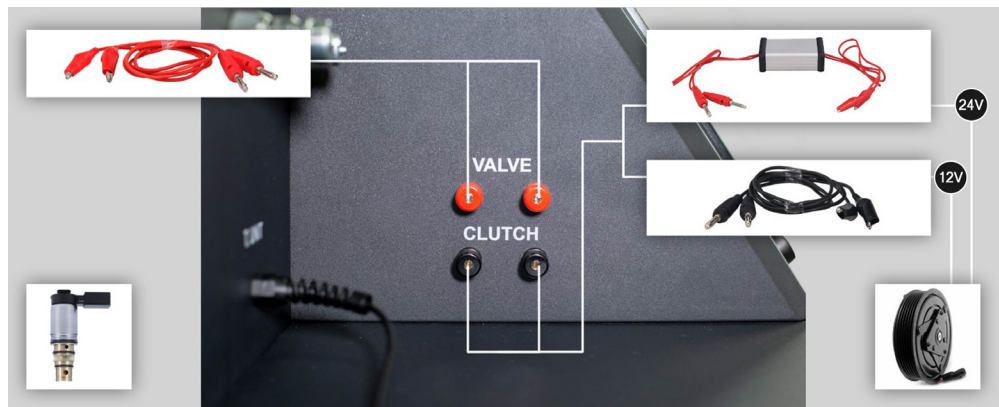

Figure 26. Connection of cables and Adapter MS122 to the bench terminals «Clutch» и «Valve»
6.2. In case the compressor is equipped with a 24V clutch, it must be tested as described in Item 6.1 of the Manual. For further diagnostics of the compressor, the clutch must be connected to the Test Bench via Adapter MS122 (Fig.26).